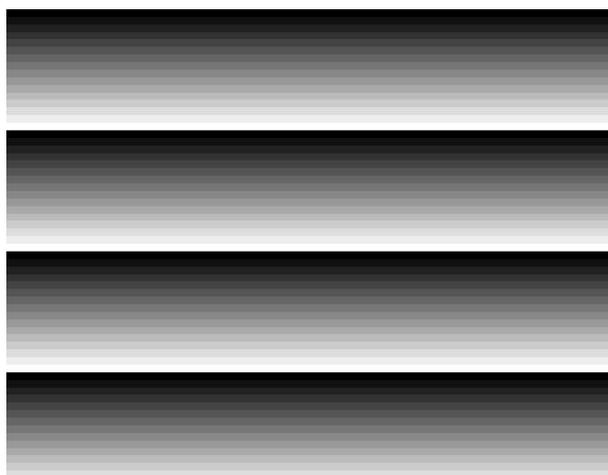

Figure 13 – Vertical pattern
2. Vertical ramp – a grayscale vertical gradient as shown in Figure 13